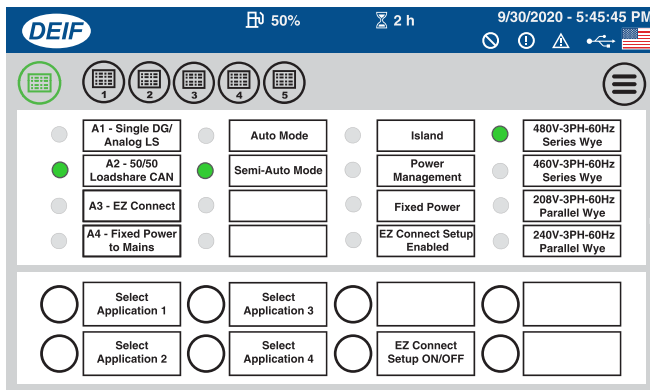

Figure 87. A2 - 50/50 Loadshare CAN Status Indicator (ON/GREEN)
5. Verify that the **A2 - 50/50 Loadshare CAN** status indicator is **ON (GREEN)**. See Figure 87.